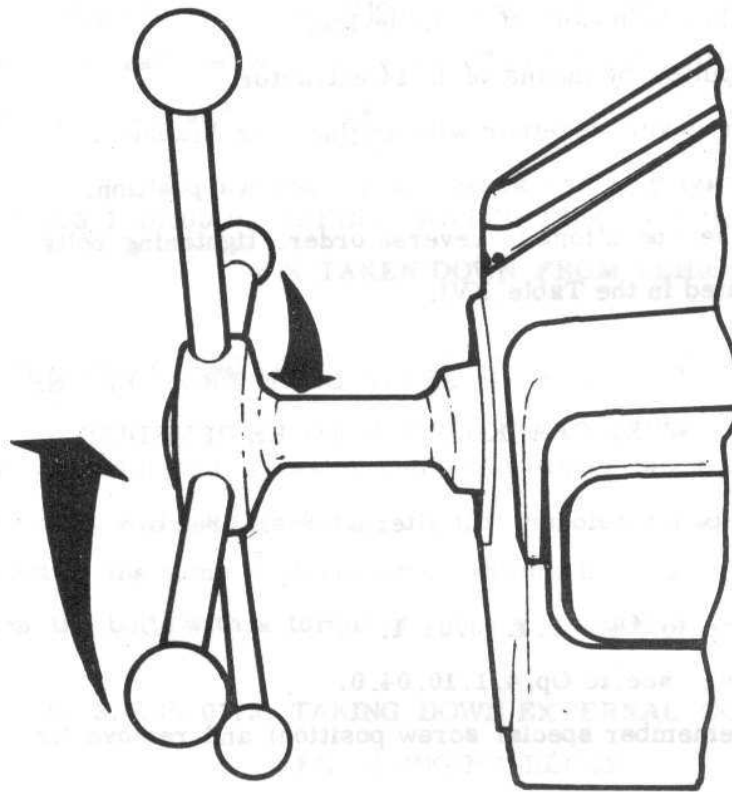

Fig. 4.61. TURNING ROUND CRANKSHAFT BY MEANS OF D-18 DEVICE.
- Turn the cranskshaft by means of D 18 cranking device, until the piston rod bearing caps of cylinders 1 and 4 reach their outer position (outer dead centre) (see Fig. 4.61).